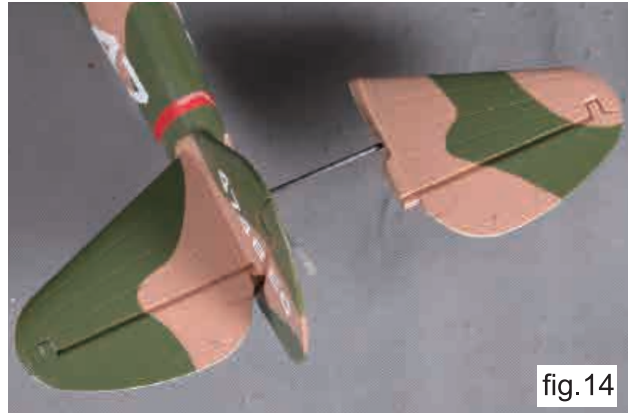

fig.14
- 14) While holding the left side stabilizer in place, guide the right side stabilizer “F” over the connecting tube and align the notch with the plastic tongue (fig. 14).